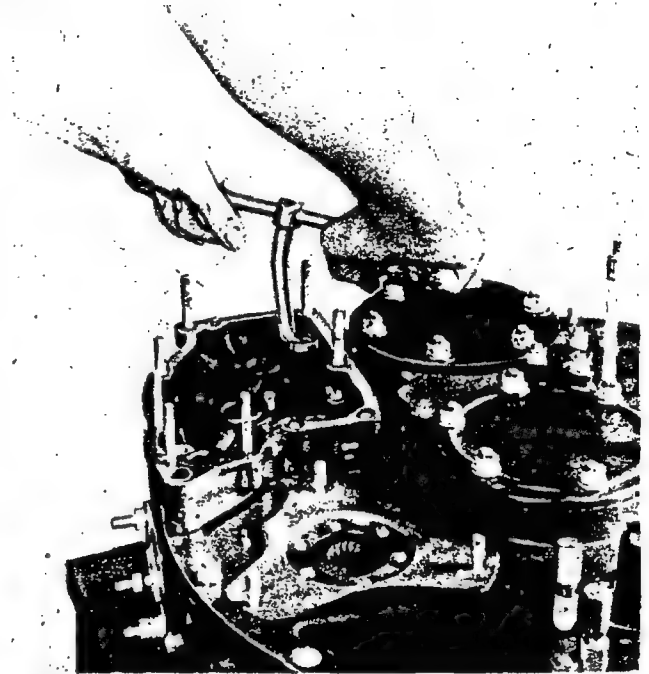

Figure 66—Loosening or Tightening Hidden Nut in Dual Accessory Drive Housing
(1) Make sure the dual accessory drive housing is accessible by removing all lines from the accessories driven by that unit. Remove the palnuts, nuts, and washers from the attaching studs on each of the two mounting pads and withdraw the accessories or cover plates with their gaskets. Remove the loose-fitting tongue drive adapters where utilized in the splined drive shafts. Break the lock wire and remove the special cap nuts and washers from the two studs extending from the supercharger rear housing cover through the upper left-hand side of the dual accessory drive housing. Remove the palnut, nut, and washer from the one remaining attaching stud on the right-hand side of the cover adjacent to the lower drive mounting pad.
(2) Remove the dual accessory drive cover and gasket by tapping on its sides with a rawhide mallet, being careful not to allow the spur gears to drop out of their bushings in the housing. Withdraw the upper and lower gears, after which the two intermediate gears may be removed, exposing the nuts holding the dual accessory drive housing to the supercharger rear housing cover.
(3) Remove the castellated nuts and washers from the two studs extending from the supercharger rear housing cover through the central portion of the accessory drive housing wall section. Break the lock wire and remove the shouldered nuts and washers, located at the corners of the housing, using an offset box-socket wrench (Tool No. 800684) and handle. See figure 66. Remove the acorn nuts and copper washers from the studs which extend from the bottom of the accessory drive housing through the supercharger rear housing and cover parting flanges. Remove the dual accessory drive housing and gasket from the supercharger rear housing cover by tapping with a rawhide mallet.